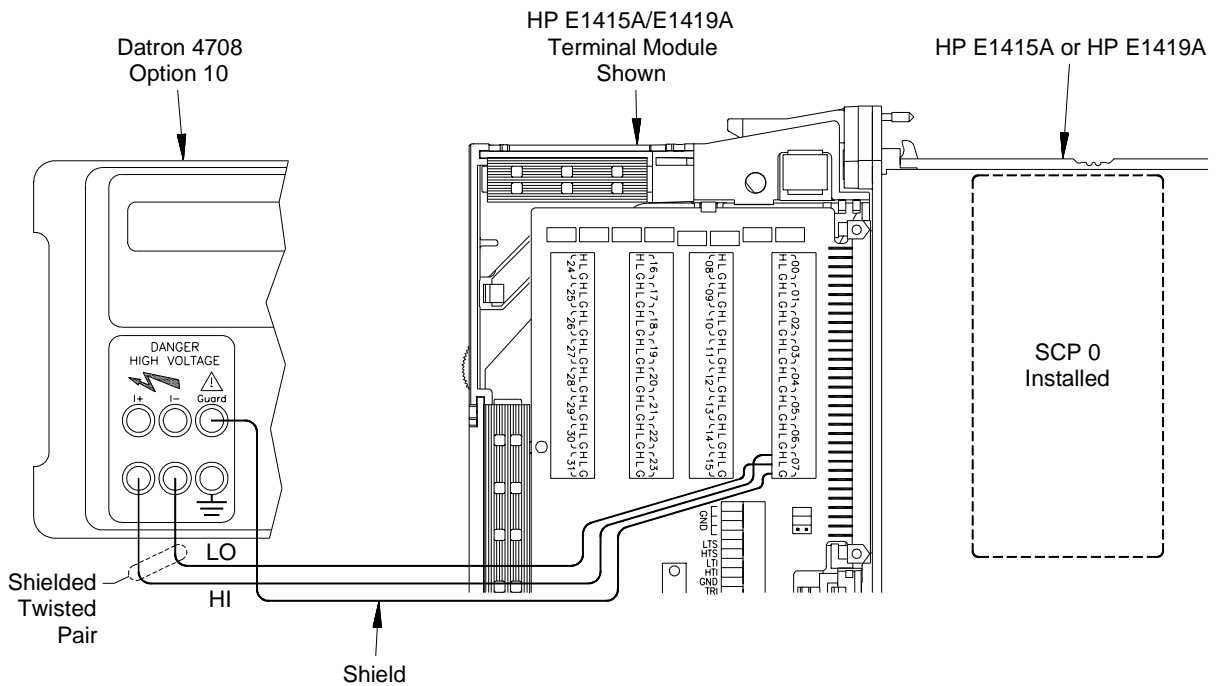

Figure 2-1. Overrange Detection Test Connections
- Set up the equipment as shown in Figure 2-1. Connections are shown to channel 07. You can connect inputs to any channel.